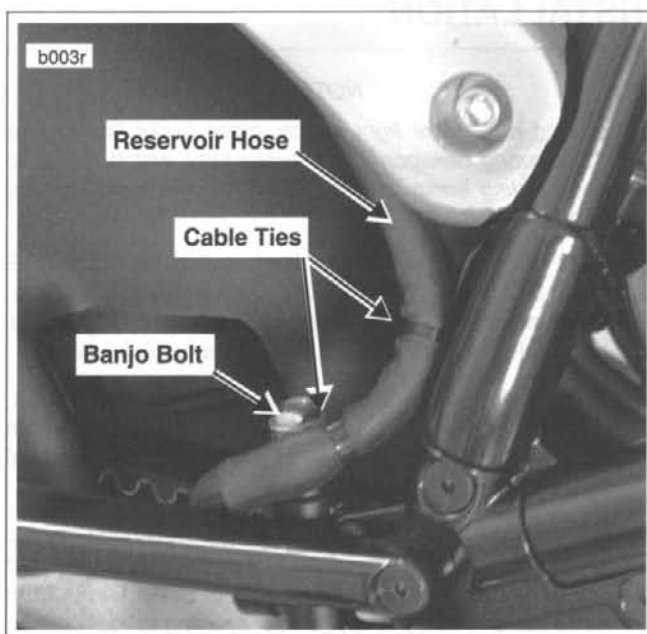

Figure 2-55. Rear Master Cylinder Banjo Bolt
7. See Figure 2-55. Cut two cable ties holding rear brake reservoir hose to rear brake line above rear master cylinder on right side of motorcycle.
8. See Figure 2-55. Install two cable ties (thick) to reservoir hose and rear brake line in **two** locations as shown in figure. Use care to avoid pinching hose.